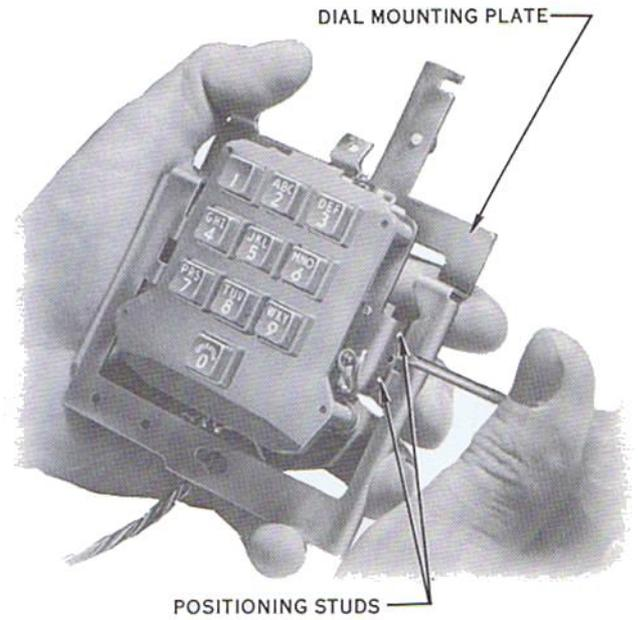

Fig. 23 - Removing Dial From
- (9) Tip screwdriver handle outward until positioning studs release. This action will raise side of dial (Fig. 23).